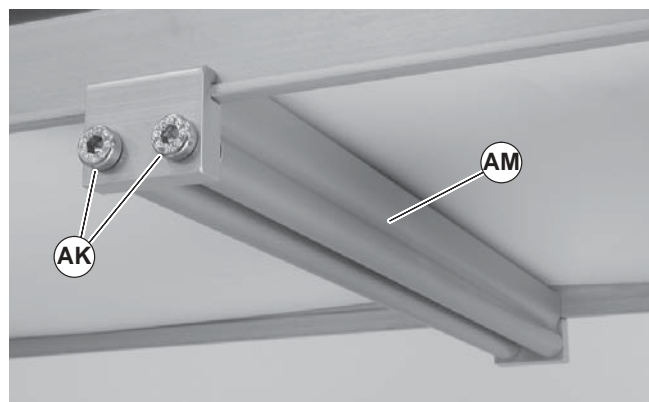

Figure 15
3. Install roller assembly as shown (Figure 15, item AM). Tighten screws (AK) to 60 in-lb (7 Nm).